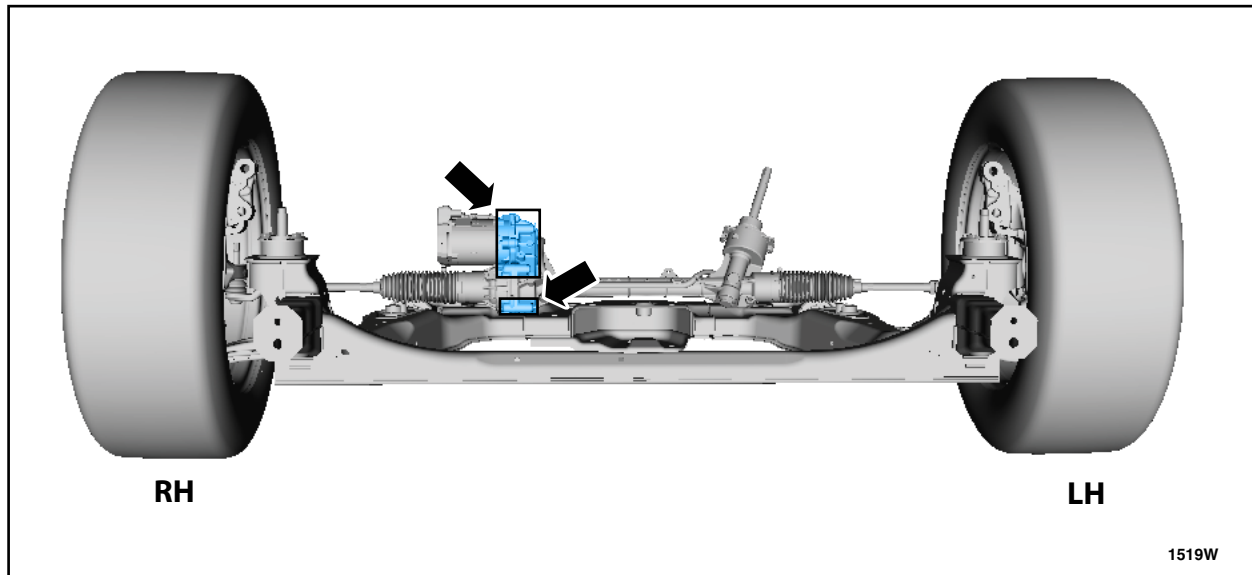

FIGURE 19
4. Working from the front of the subframe, insert nozzle between steering gear and subframe housing seam. Apply corrosion inhibitor to gear motor bolts one and two, steering gear to housing seam, housing bolts five, six and seven heads, threads and thread holes. See Figures 19 and 20.